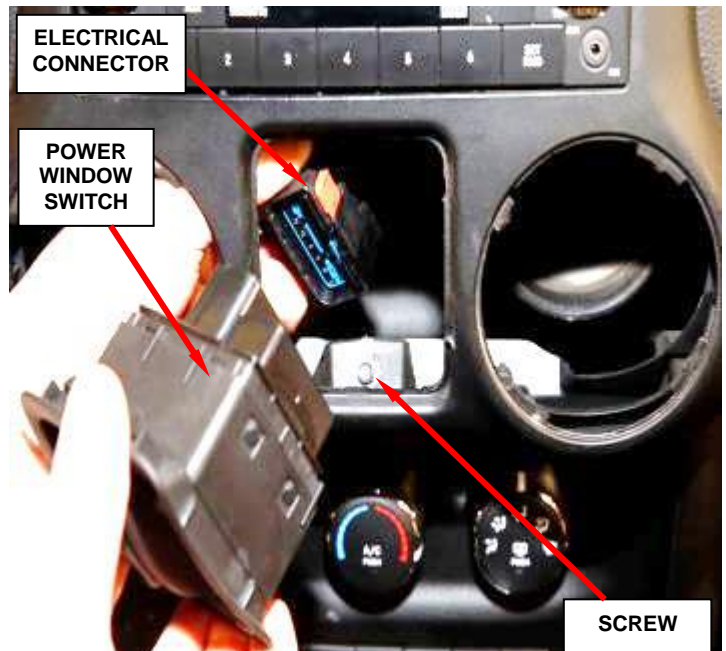

Figure 132 – Power Window Switch
14. If equipped with power windows, using a Trim Stick C-4755 or a suitable flat bladed tool, gently pry the switch assembly away from the instrument cluster bezel (Figure 132).
16. Disconnect the switch assembly electrical connector and remove the switch (Figure 132).
17. Remove the screw from the power window switch opening (Figure 132).